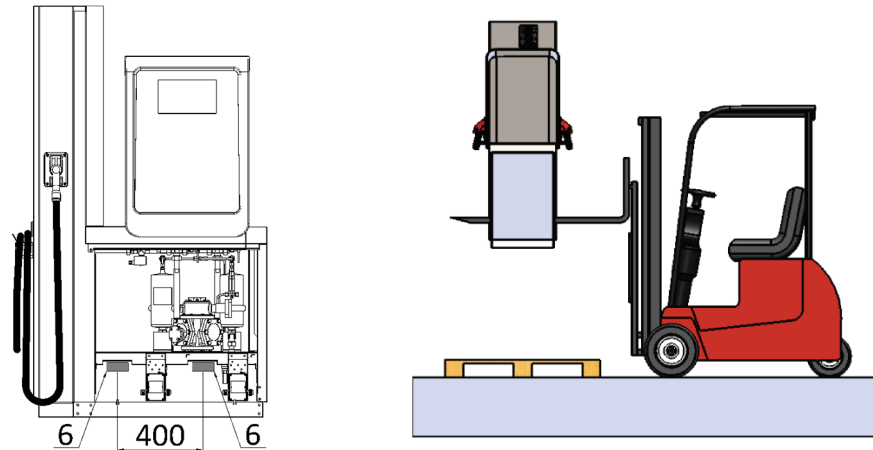

Figure 16 – Lifting the dispenser from the wooden transport pallet
- When installing the dispenser on the site, first remove the dispenser covers (doors) and loosen the anchor bolts between the wooden pallet and the dispenser. Then pick up the dispenser from a wooden pallet and place it on the prepared base frame on the site. Use the holes in the dispenser for the 100 x 40 mm load forks to lift – see Figure 16, position 6).